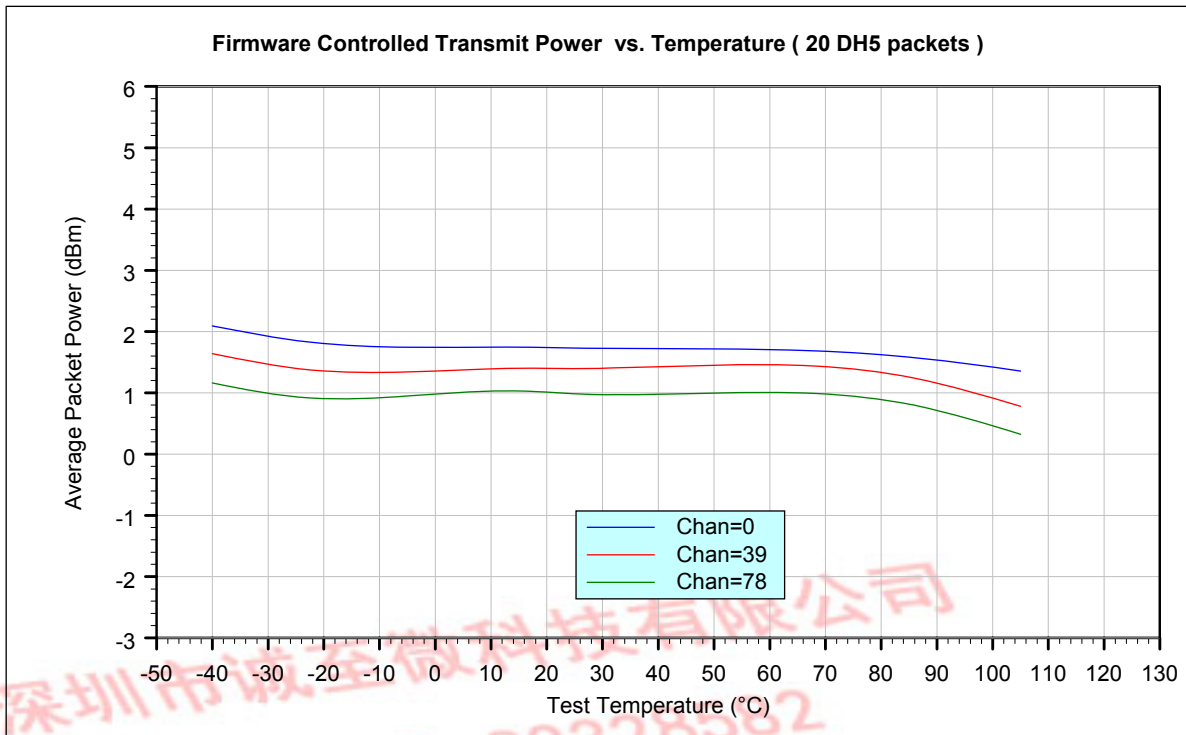

Figure 9.2: Firmware Controlled Transmit Power vs. Temperature (20 DH5 Packets)
Output power as per Figure 9.2.
- Output power as per Figure 9.2.